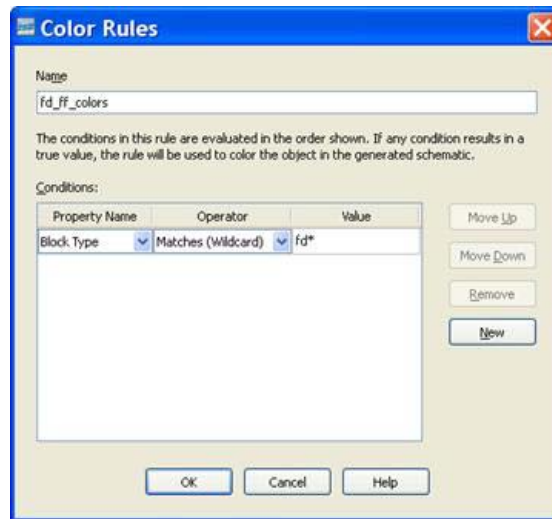

Figure 7-9: Color Rules Dialog Box
- Select **Block Type** for Property Name, select **Matches (Wildcard)** as Operator, type **fd\*** as a value as shown in Figure 7-9, and click **OK**.